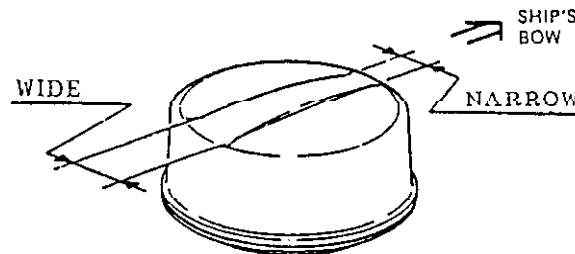

Figure 6-8 Radome Cover Placement
- Put the radome on the radome base assembly, taking note of that the narrower recessed part should face in the direction of the bow. See Figure 6-8.